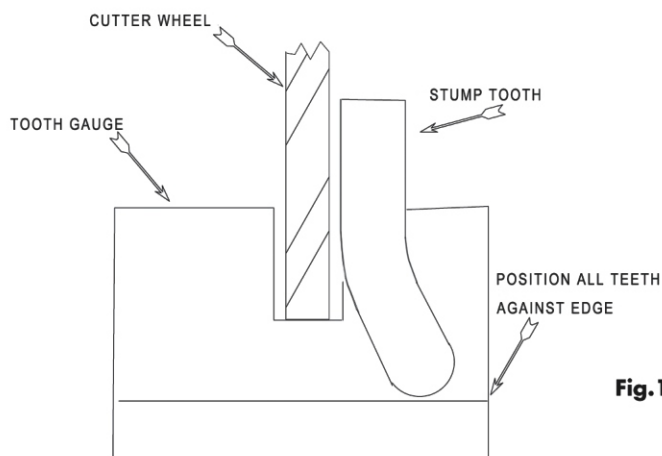

Fig. 13: Using the tooth gauge to properly position grinding teeth
- vi. Reassemble cutter wheel assembly. Use tooth gauge to position teeth such that they follow the cutter teeth pattern (see Figures 13 and 14). Make sure that all cutting edges of teeth are the same distance from the cutter wheel. **All teeth must be on wheel to keep it balanced. The same style packets must be used to keep wheel balanced.**